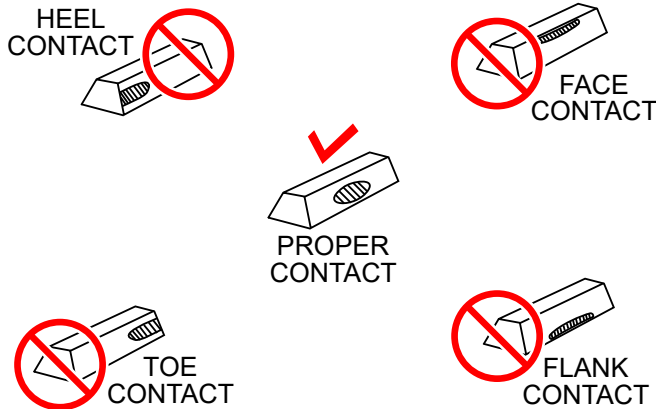

Figure 47. Gear Teeth Alignment
3. If the gear teeth are not contacting properly (Figure 47), adjust the pillow block to correct the problem.